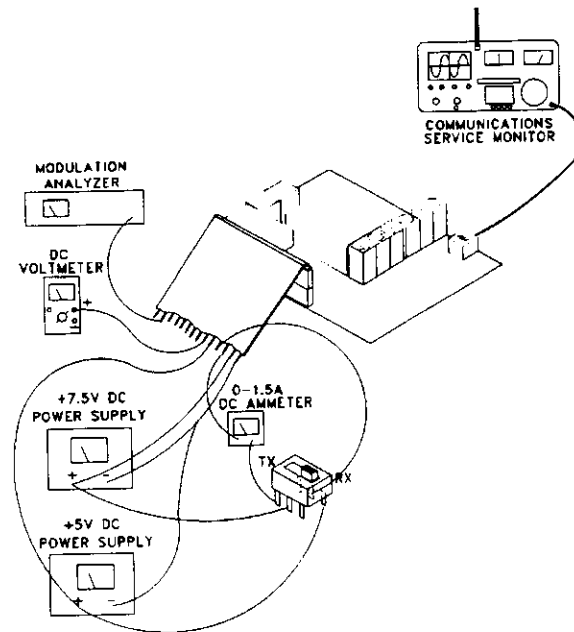

Figure 6-2 RECEIVER TEST SETUP
1. Connect the test setup shown in Figure 6-2. Adjust the power supply for +7.5V DC.